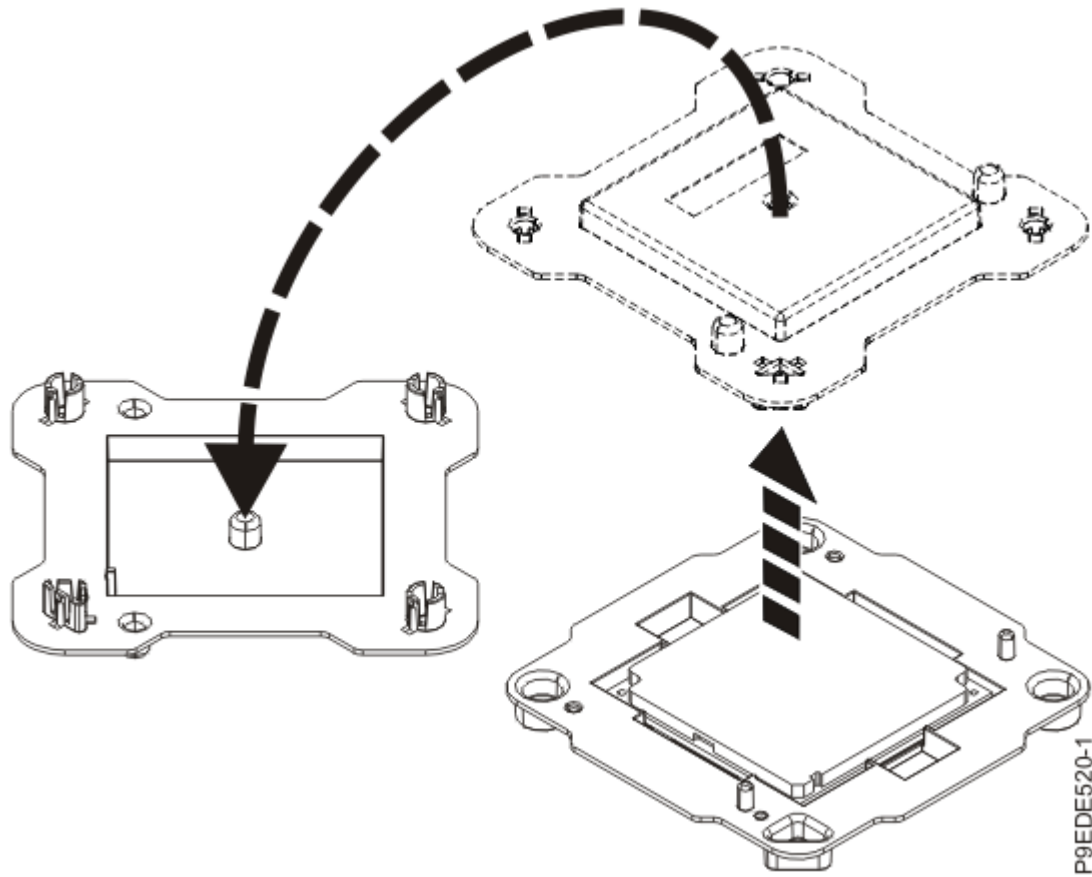

Figure 11. Opening the system processor module packaging
2. Open the packaging of the new system processor module, and place the cover upside down next to the tray, as shown in Figure 11 on page 14. The cover is used for the system processor module that you are replacing.